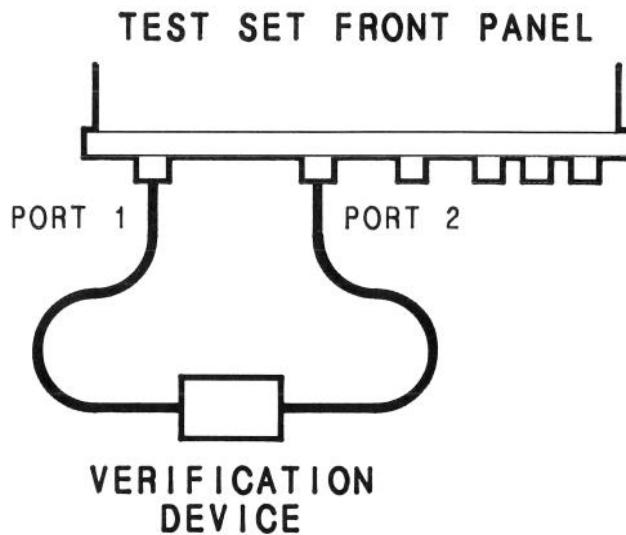

Figure 2. Setup For Verification Measurement.
42. When prompted, connect the 20 dB attenuator verification device as shown in Figure 2.